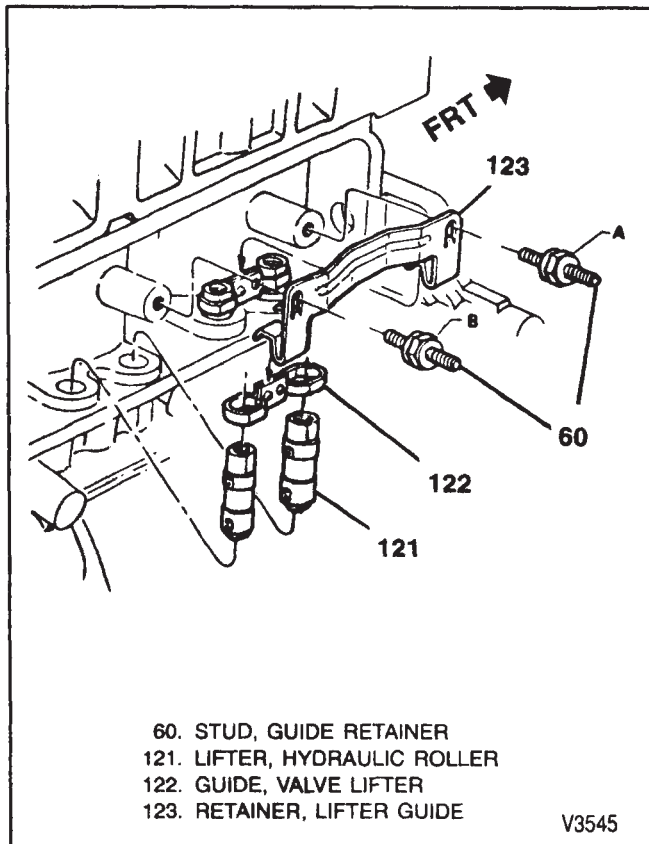

Figure 10—Hydraulic Lifters and Components
**Remove or Disconnect (Figure 10)**
2. Stud (60) and retainer (123).
3. Guide (122).
4. Hydraulic lifter (121).
**Install or Connect (Figure 10)**
1. Hydraulic lifter (121) to the block.
- Stud (60) using the sequence shown in figure 10 (A first, then B, for both retainers), to 10 N·m (90 in. lbs.).